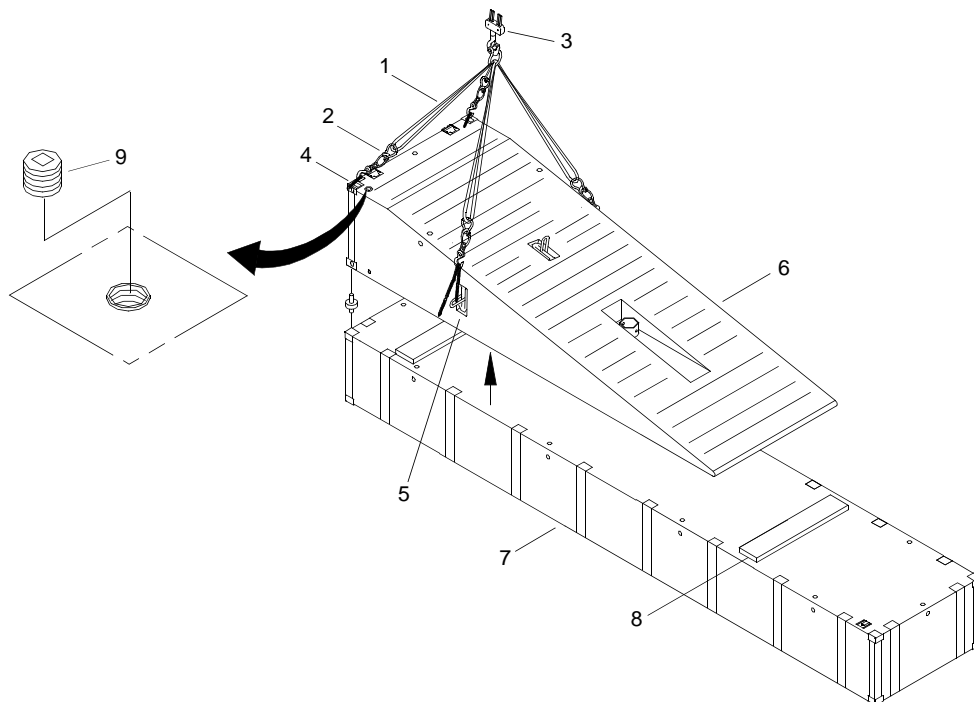

Figure 5. Lifting the CBSE Module
- Attach four 8,400 lb slings (figure 5, item 1) and 36,000 lb adjustable chain slings (figure 5, item 2) from crane (figure 5, item 3) to two corners (figure 5, item 4) and two side padeyes (figure 5, item 5) on CBSE module (figure 5, item 6).
- Using slings (figure 5, items 1 and 2) and crane (figure 5, item 3), lift CBSE module (figure 5, item 6) from top of center module (figure 5, item 7).
8. Remove 36,000 lb adjustable chain slings (figure 5, item 2) from two corners (figure 5, item 4) and two side padeyes (figure 5, item 5) on CBSE module (figure 5, item 6).
9. Remove 8,400 lb slings (figure 5, item 1) from crane (figure 5, item 3).
10. Remove wood planks (figure 5, item 8) from top of center module (figure 5, item 7).
11. Verify drain plug (figure 5, item 9) on CBSE module (figure 5, item 6) is installed and tight.